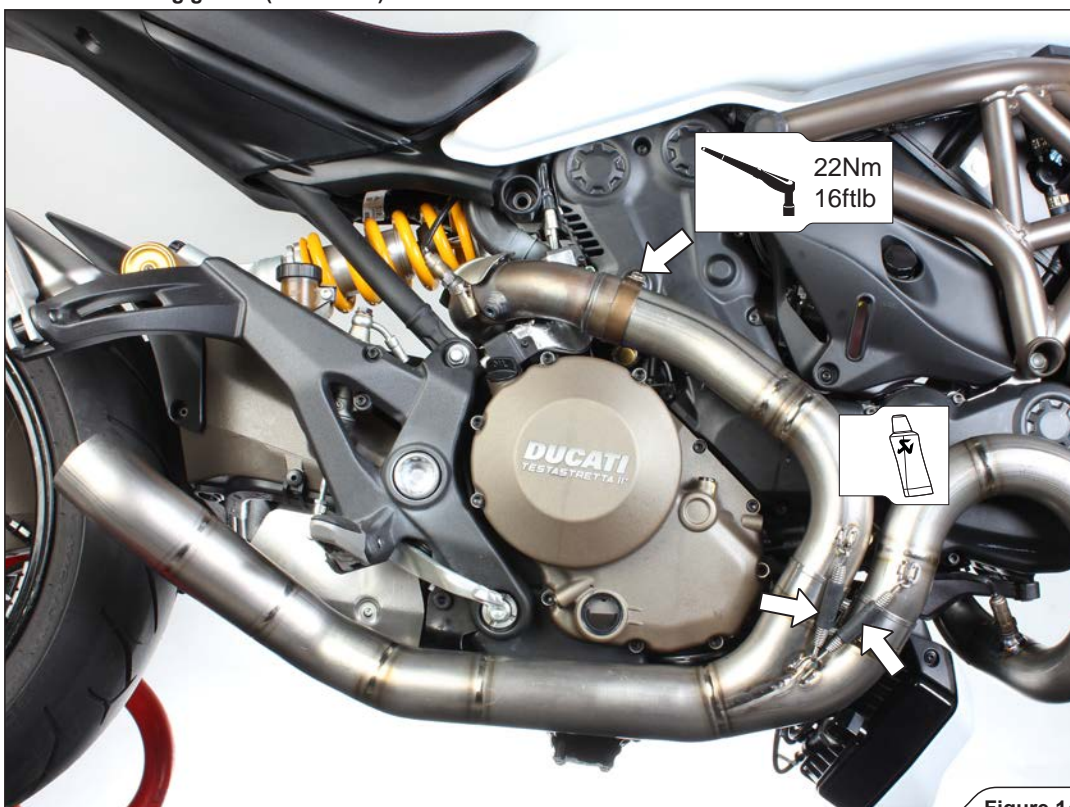

Figure 14
4. Slide the link pipe onto the headers, attach the springs and tighten the stock clamp (Figure 14).